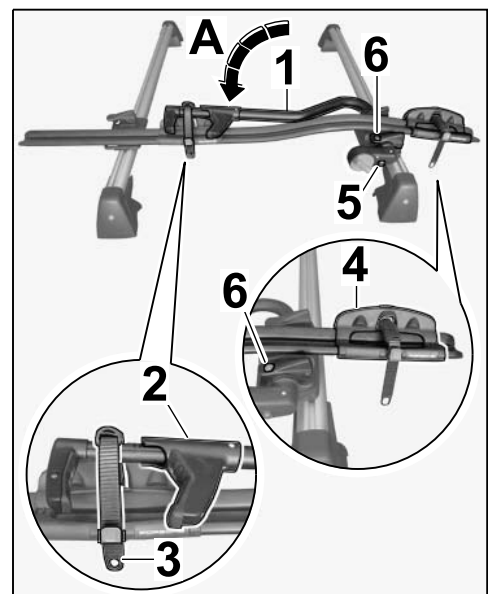

Figure 21
- 6.6 Swivel the frame holder (claw) and support tube onto the rear wheel mount (⇒ *Figure 21-A-*) and secure it to the wheel mount with the tension strap.